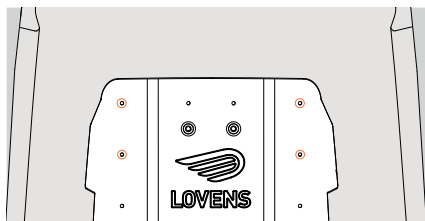

Figure 3 - Removing caps.
6. Before the front bench can be attached, the four caps (as shown in figure 3) must be removed. Carefully insert a flat screwdriver under the caps to remove them.